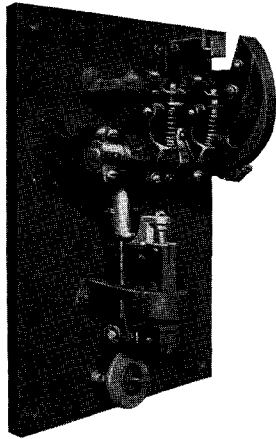

Fig. 12—Type KS Series Accelerating Relay Mounted with Type F Contactor
35. A type KS alternating-current accelerating relay, as shown in Fig. 12, is mounted with each contactor, except the last one to close. These relays are mechanically connected to the contactors under which they are mounted in such a way that they are inoperative as long as the contactors are open. When the first contactor closes, it presses down the cap of the relay which is mounted below it and thereby leaves the armature of the relay held only by the current in the series operating coil. As the motor speeds up the current in this coil is reduced until it reaches the value for which the relay was set. At this point the armature falls and the relay operates to close the next contactor.